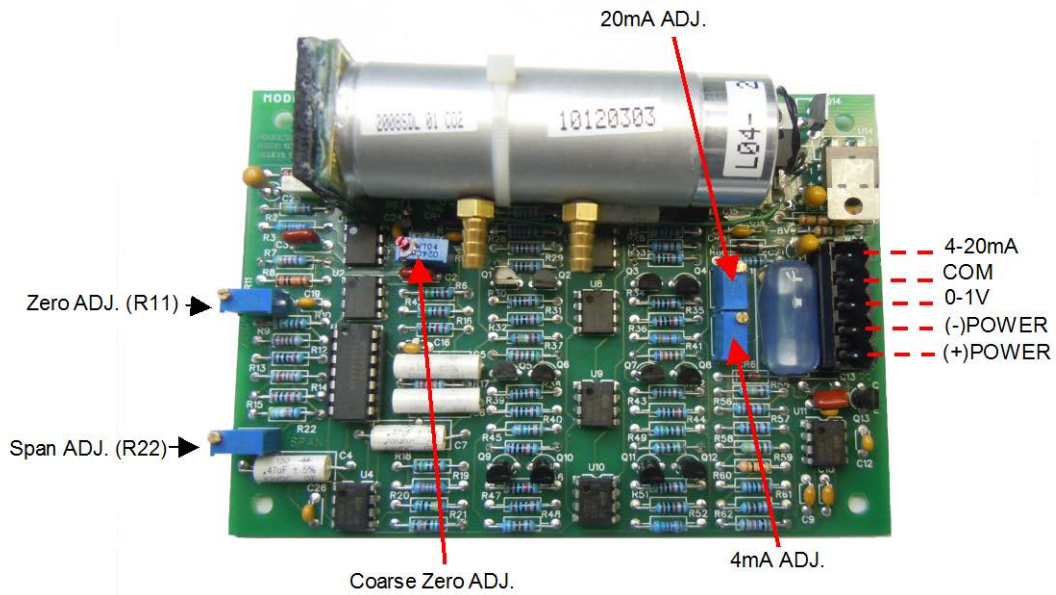

FIGURE 2 (plug-in connector not shown)
C. Circuit Board (See Figure 2)